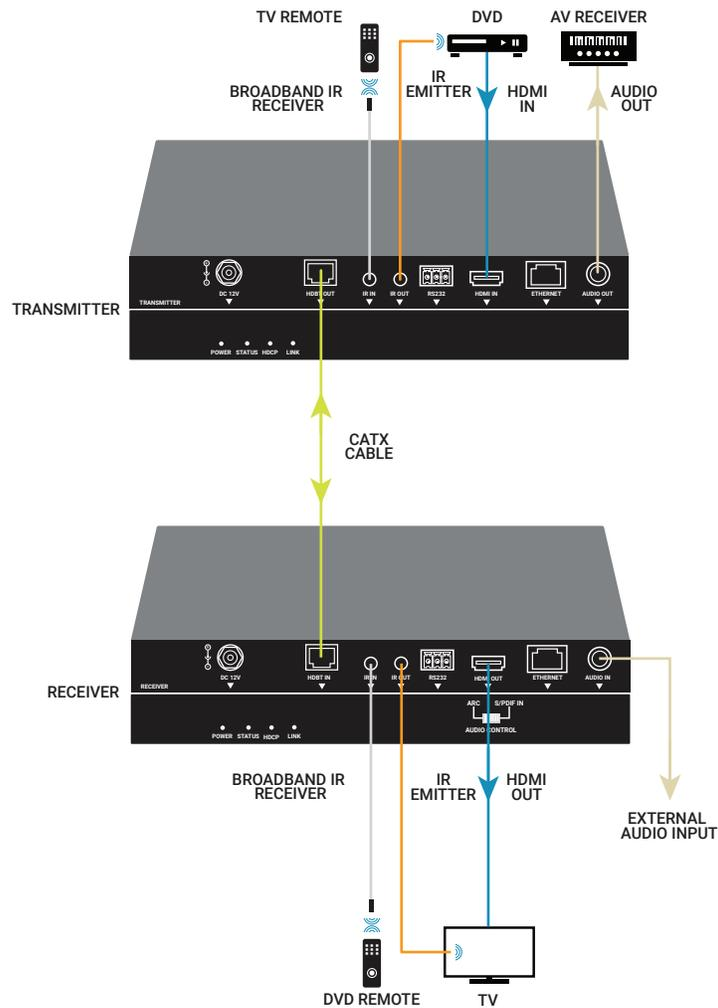

FIGURE 3-1. CONFIGURE ARC CHANNEL
- ♦ When you configure the ARC channel feed by TV, switch it to ARC mode. The TV should be supported and ARC and CEC should be open. See Figure 3-1.